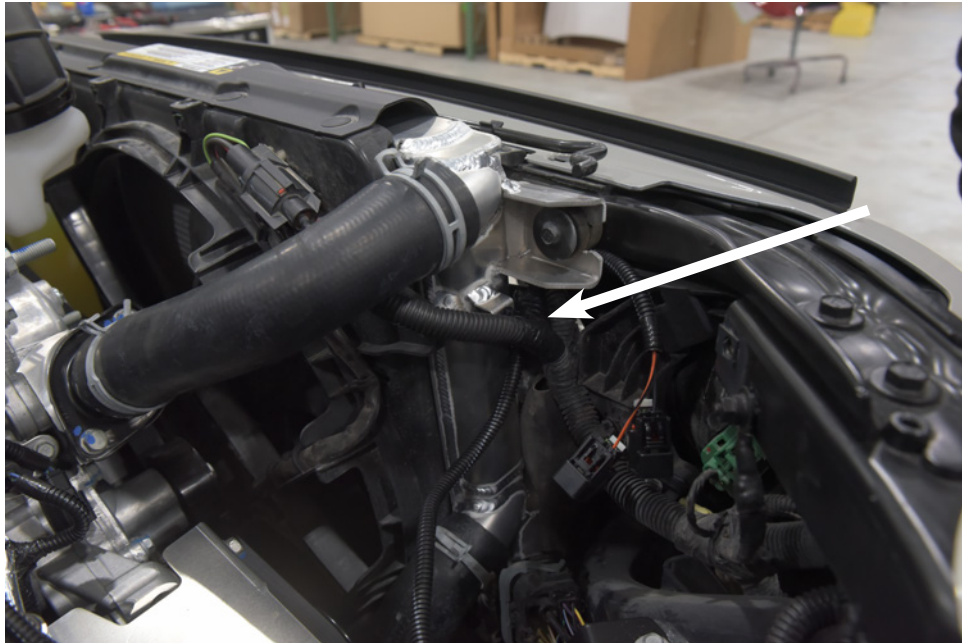

Figure 16
20. Plug the fan connector in and use the provided fir tree zip tie to attach it back to the radiator (Fig. 16).